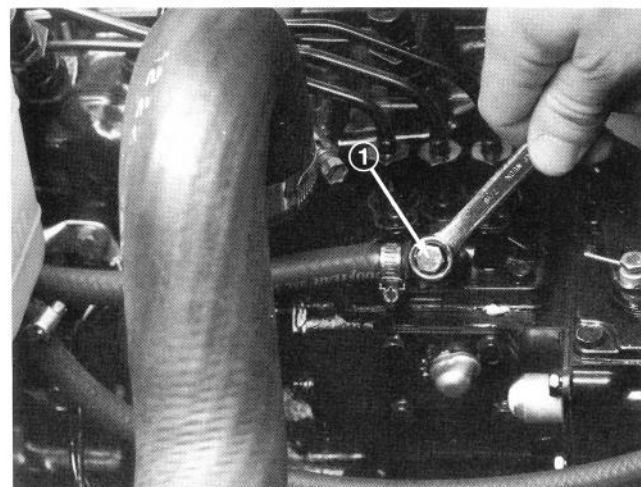

Figure 31
4. Open the air bleed screw on the fuel injection pump (Fig. 31) with a 10 mm wrench.